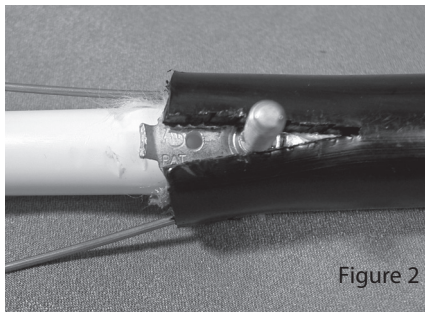

Figure 2
2. Insert the shoe of the bond clamp beneath the cable jacket with the stud protruding from the slit. (Figure 2)